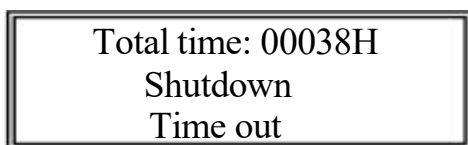

Fig. 7 Shutdown display
- 6) **Automatic shutdown:** After reaching the preset oxygen generation time, oxygen concentrator will automatically shut down. The display of LCD is shown in Fig. 7.